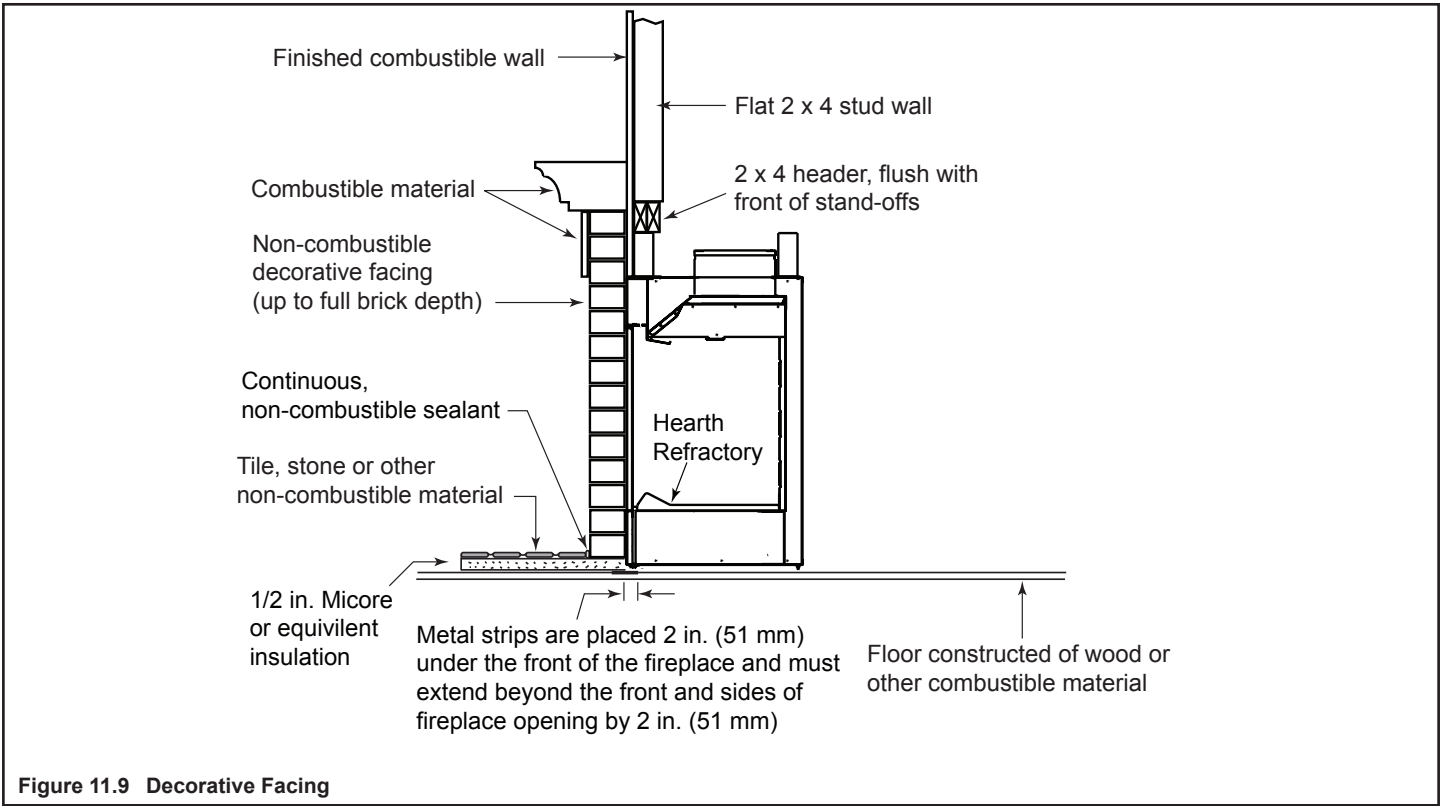

Figure 11.9 Decorative Facing
- Refer to shaded areas of Figure 11.9 for the location and dimensions of a combustible mantel.